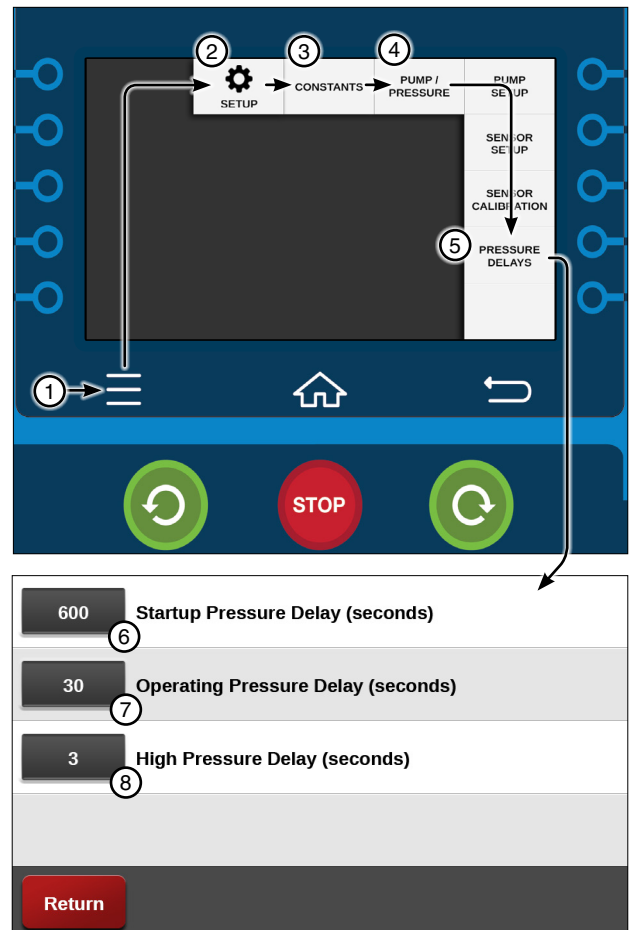

Figure 33-1 1. Menu 5. Pressure Delays
The Pressure Delay screen provides the ability to set the pressure delays for Startup, Operating, and High Pressure. Refer to Figure 33-1.
Startup Pressure Delay bypasses the pressure transducer for the amount of time required in seconds for the machine to initially build water pressure above the low pressure limit after the pump has been started. The Startup Pressure Delay setting has a range of 0 to 5000 seconds. The factory default is set to 600 seconds, or 10 minutes. Refer to Figure 33-1.
1. Push **Menu**, **Setup**, **Constants**, **Pump / Pressure** and **Pressure Delays** to display the Pressure Delay screen. Refer to Figure 33-1.